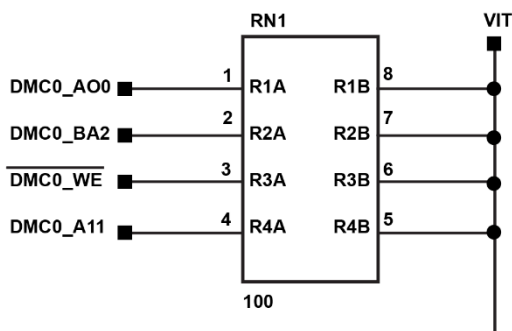

Figure 1. VTT Termination for Address and Command Line
- Implement VTT termination for the address and command lines as shown in Figure 1, Where RN1 is a resistor pack.